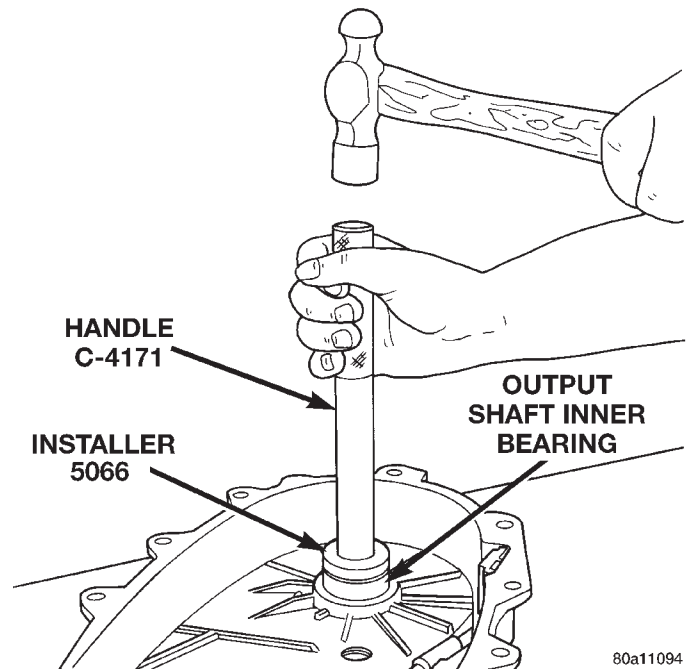

Fig. 47 Output Shaft Rear Bearing Installation
(8) Install new bearing with Tool Handle C-4171 and Installer 5066 (Fig. 47). The bearing bore is